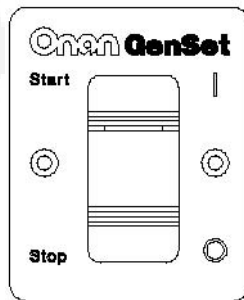

FIGURE 29. REMOTE SWITCH
- Remote start/stop switch with status indicator light only (Figure 29).